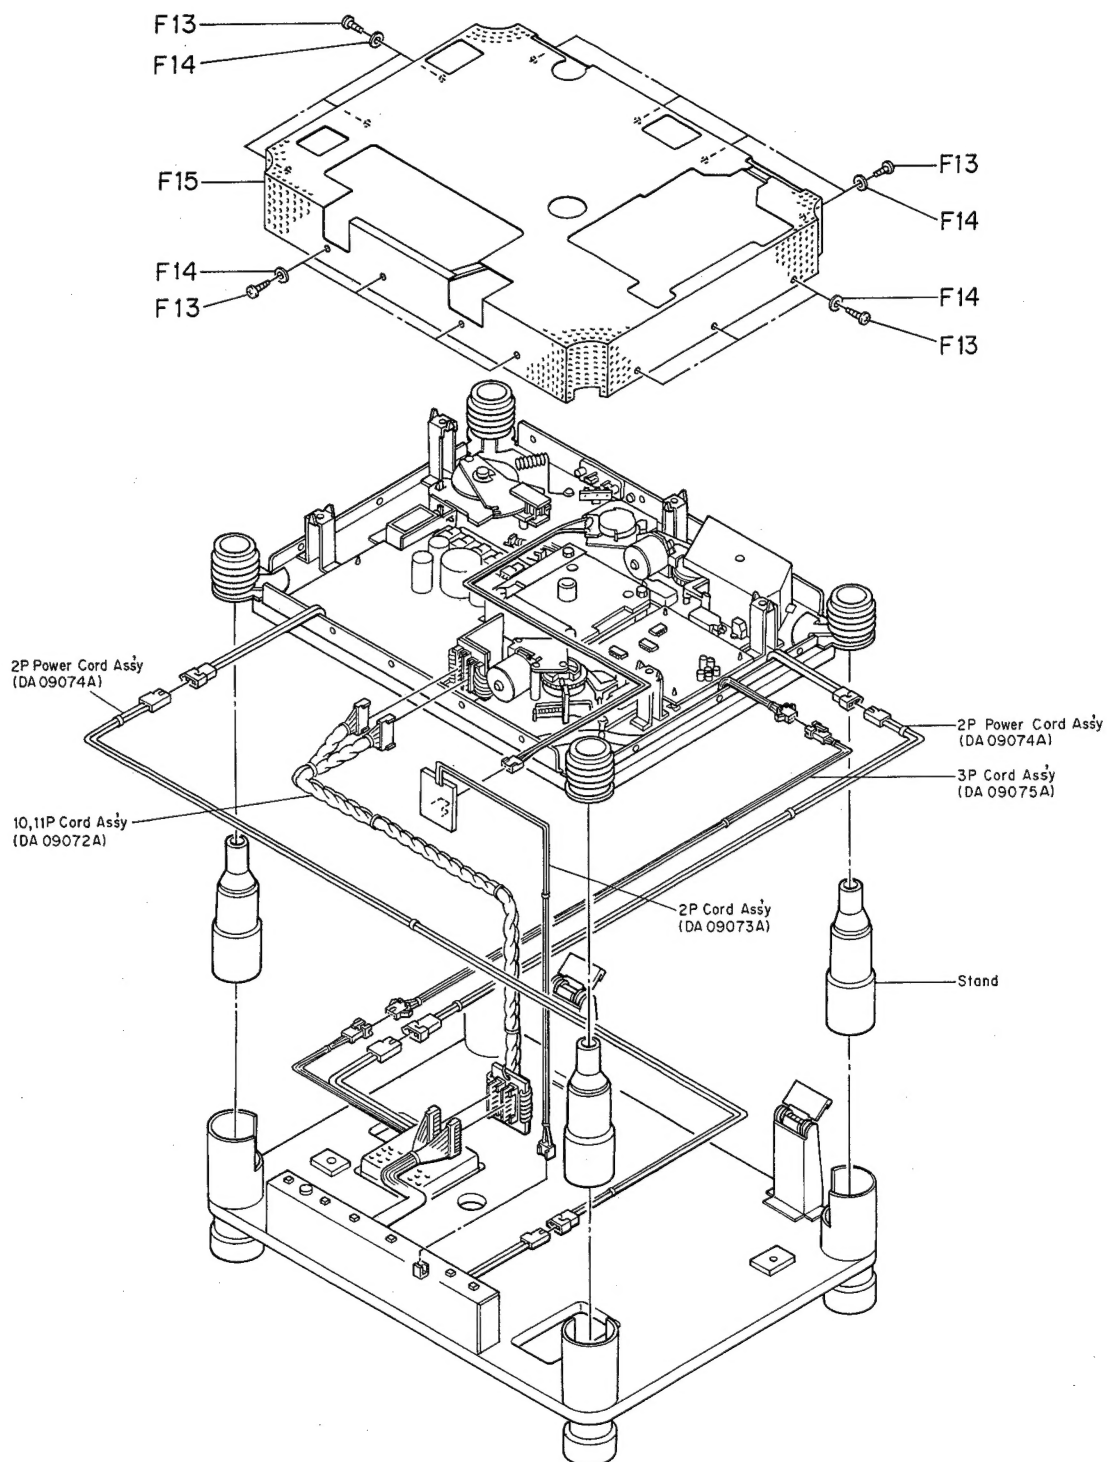

Fig. 3.3
- (1) Lift up the Top Board with hands and insert four Stands (OD09023A) in the Insulator Housing at every corner of the Bottom Board. Refer to Fig. 3.3.
- (2) Turn over the Top Board as shown in Fig. 3.3 and carefully